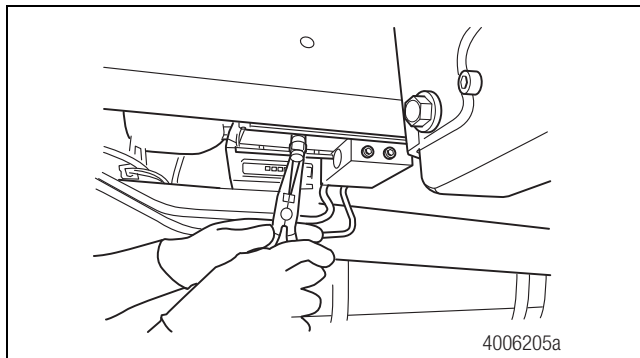

Figure 4
1. Use light hand pressure to slowly seat the pump into the bore. Use care not to damage the O-rings. Figure 4.